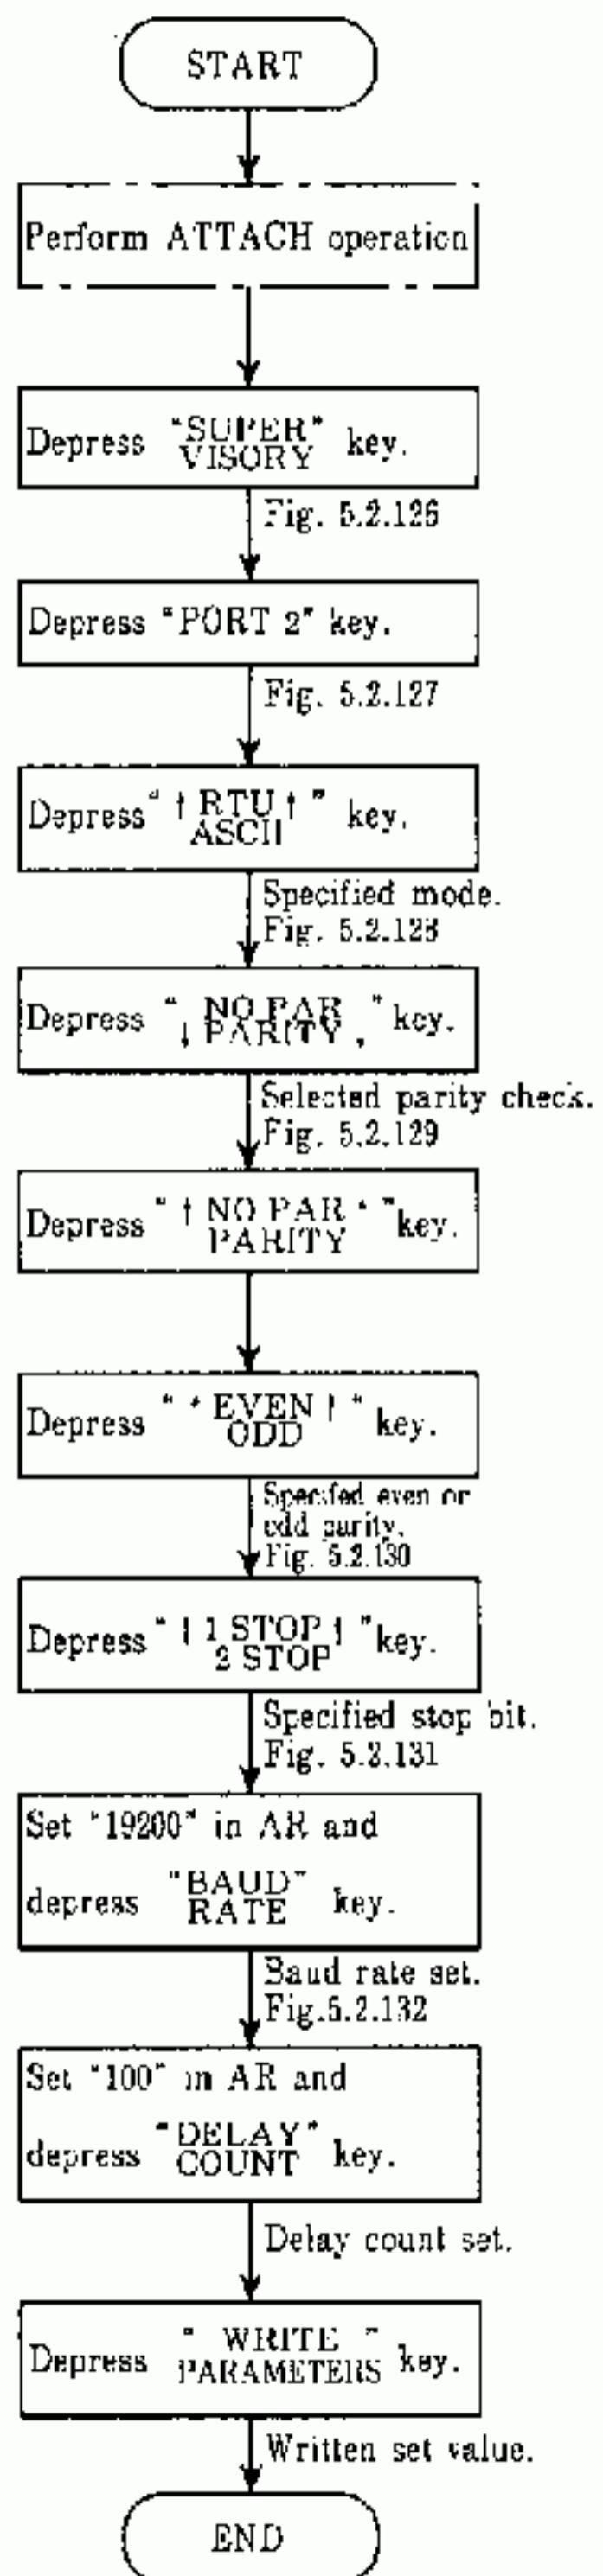
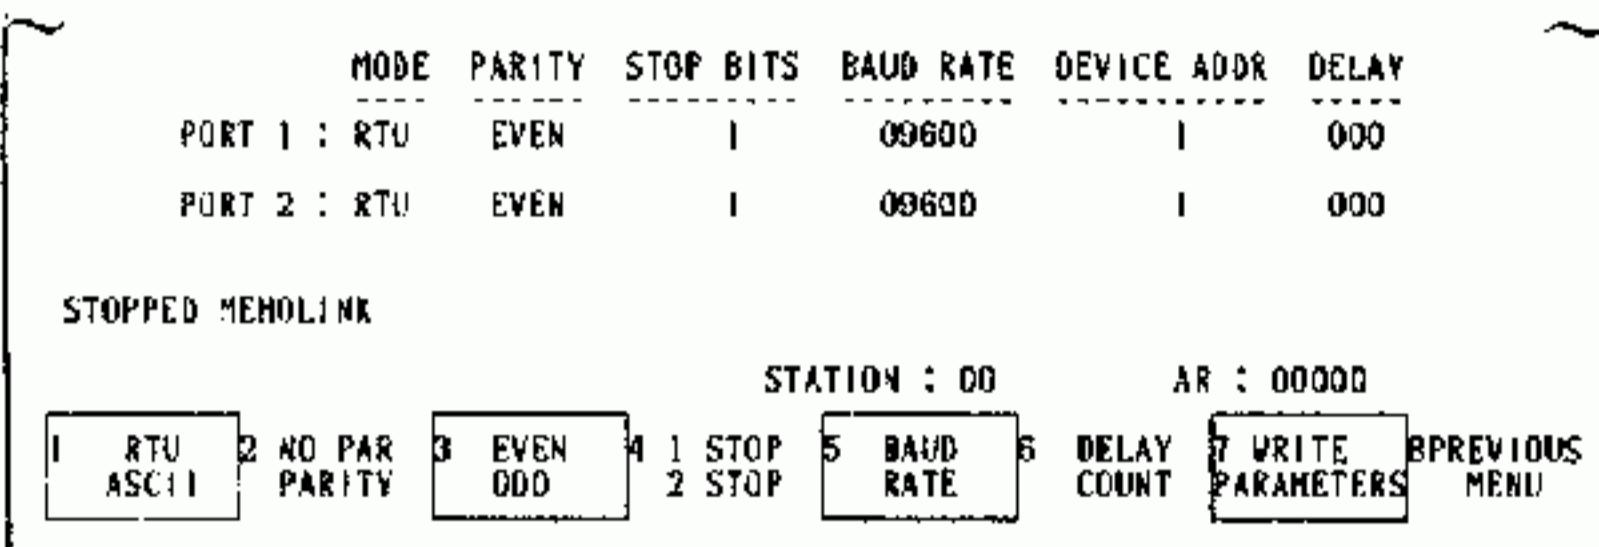

Fig. 5.2.126
Fig. 5.2.127
4. When "PREVIOUS MENU" is depressed (Fig. 5.2.127), the set data is not written, and the display returns to that shown in Fig. 5.2.126.